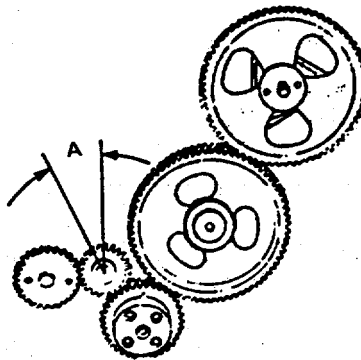

FIGURE 3-58. Idler Gear Backlash.
- (4) Position the indicator on a tooth of the idler gear.
- (5) Note the idler gear backlash (FIGURE 3-58). Limits are the same as lube oil pump gear.